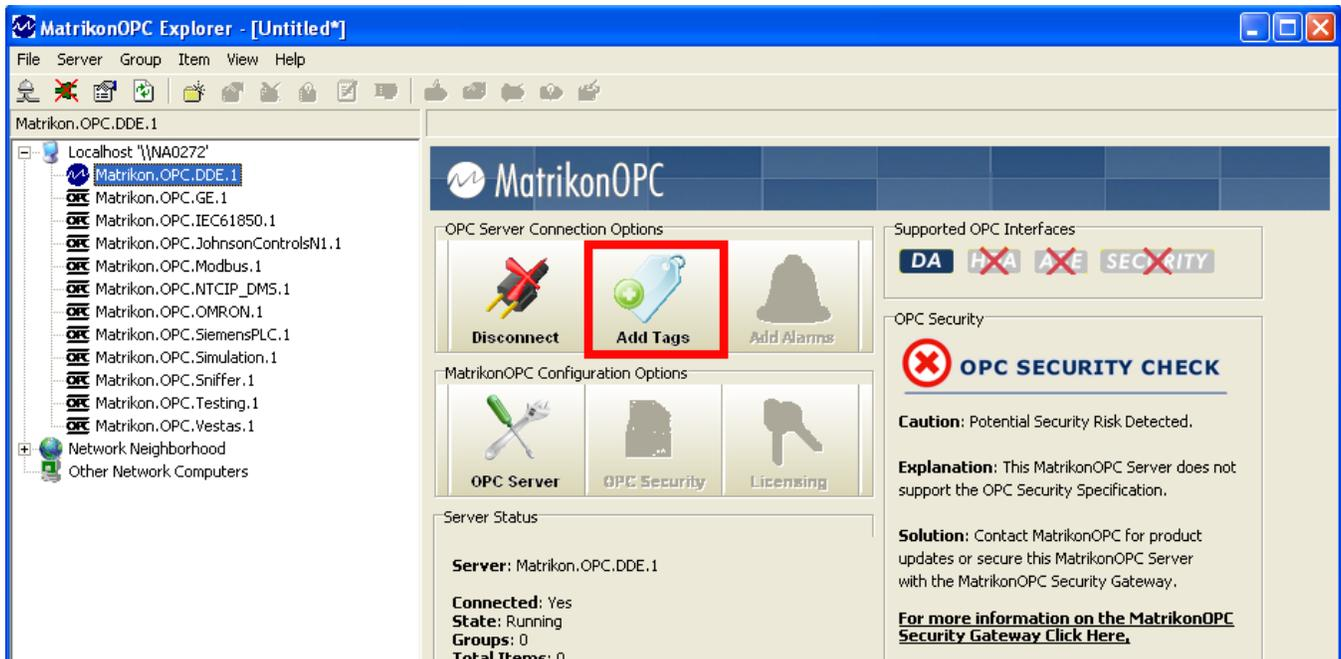

Figure 11 - Add Tags Button
1. In the **OPC Server Connection Options** screen section, click on the **Add Tags** button (Figure 11).